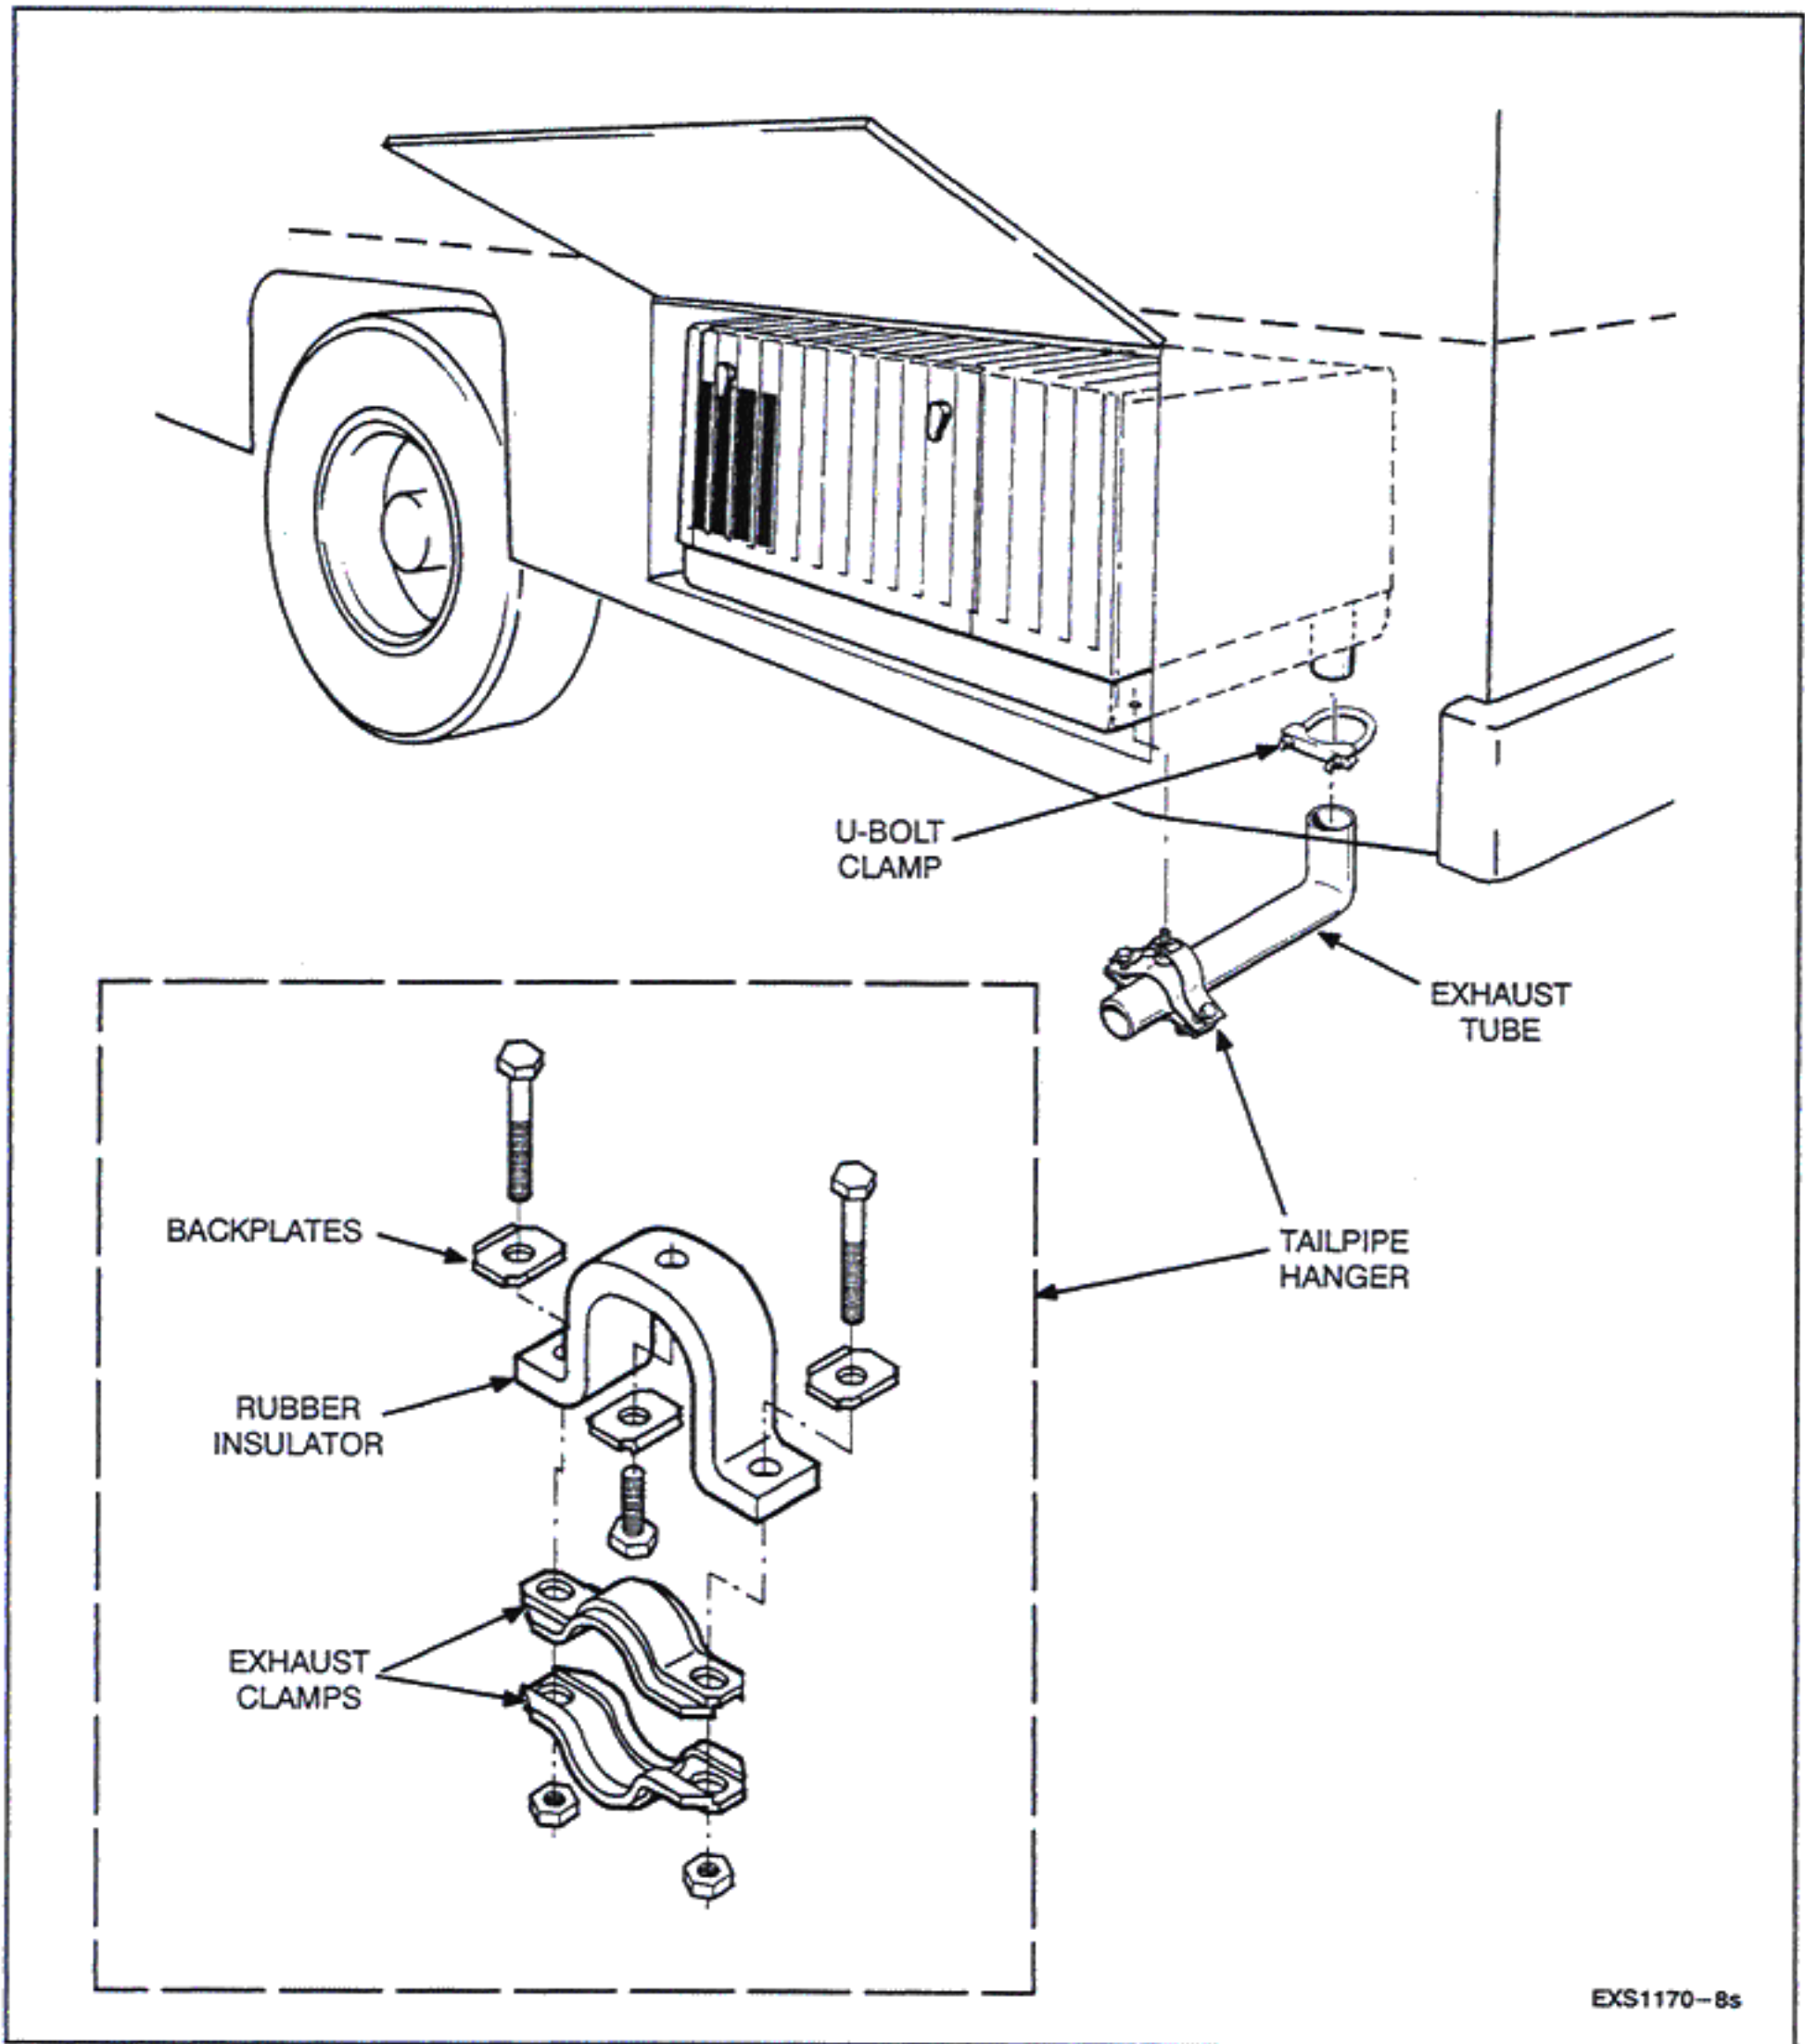

FIGURE 2. EXHAUST TUBE INSTALLATION
2. Assemble the backplates to the mounting screws with the flanges facing the screw heads (refer to Figure 2). Insert the 5/16-18 x 3/4 screw and backplate through the center hole in the rubber insulator.
5. Mount the rubber insulator assembly to the base of the genset securely (Figure 2). Do not overtighten the mounting bolt or the rubber insulator could be damaged.